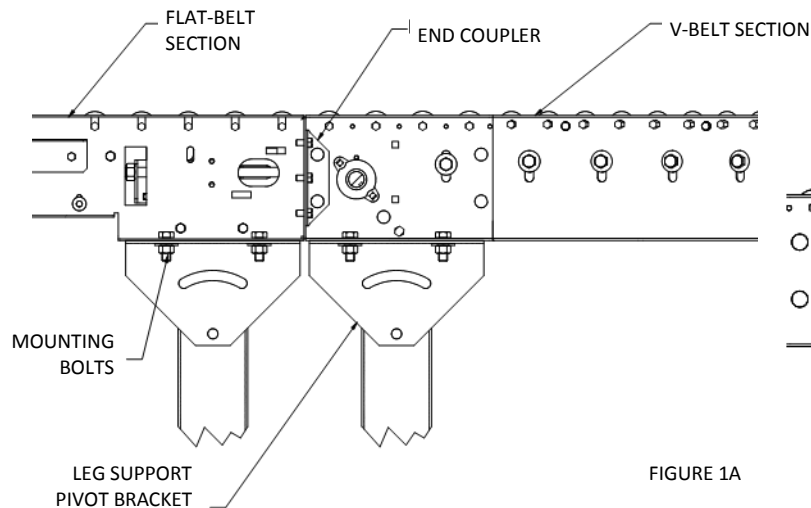

FIGURE 1A
- 5) Fasten sections together with end couplers and leg support pivot brackets. Hand tighten only. See figure 1A and 1B.
- 1) Fasten sections together with end couplers and leg support pivot brackets. Hand tighten only. See figure 1A and 1B on page 25.